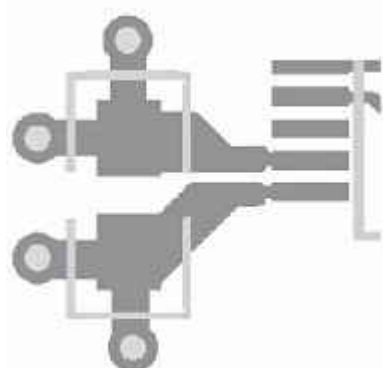

図 10-3. Good Layout
- Decoupling capacitor locations for the DMD must be as close as possible to the DMD. The pads of the capacitors must be connected to at least two or three vias to get a very low impedance to ground as shown in 図 10-3. Furthermore, the capacitor must be in the flow of the power trace as it goes to the input of the DMD.